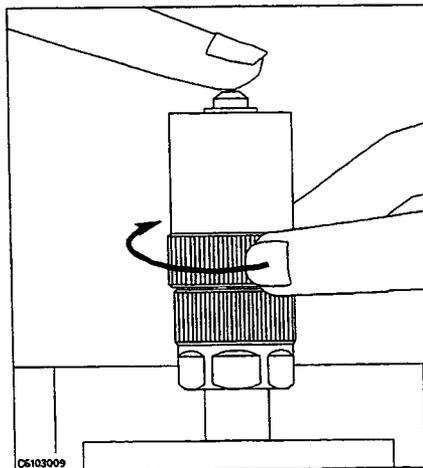

Figure 3-6.
5. Connect the 0 S termination to the APC-7[®] connector as shown in Figure 3-6.